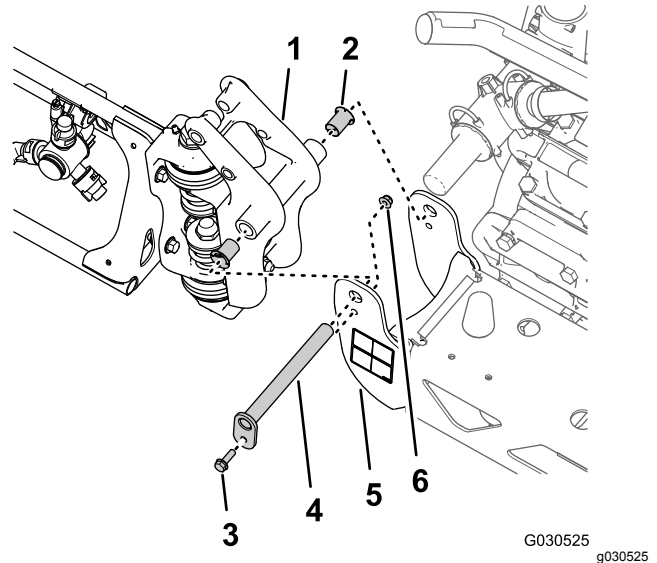

Figure 42
- Remove the flange bolt (5/16 x 1 inch) and flange locknut (5/16 inch) securing the pivot pin to the pivot bracket (Figure 42).
- Remove the pivot pin from the pivot bracket for the center-spray section and the pivot fitting for the outer-spray section (Figure 42).
3. Separate the outer-spray section from the center-spray section and remove outer section from the machine (Figure 42).
4. Remove the 2 nylon-flange bushings from the pivot fitting of the outer-spray section (Figure 42).